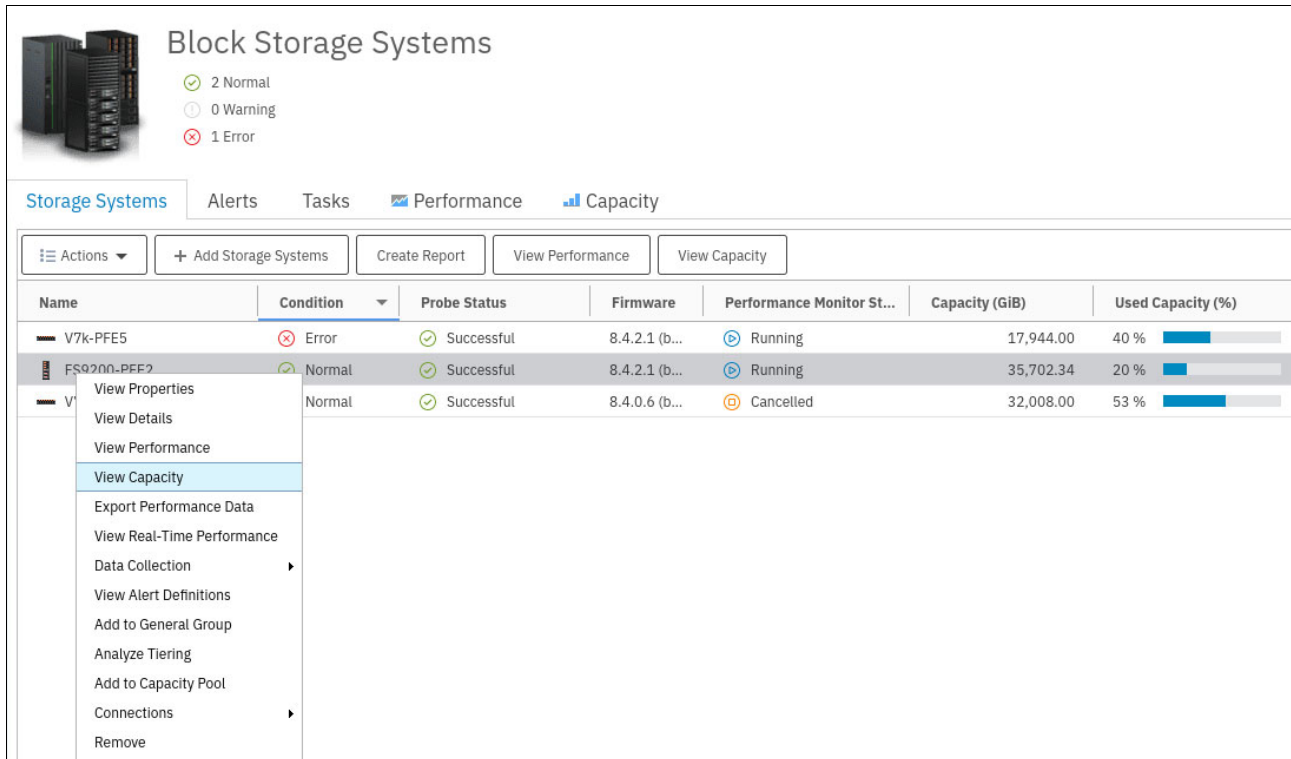
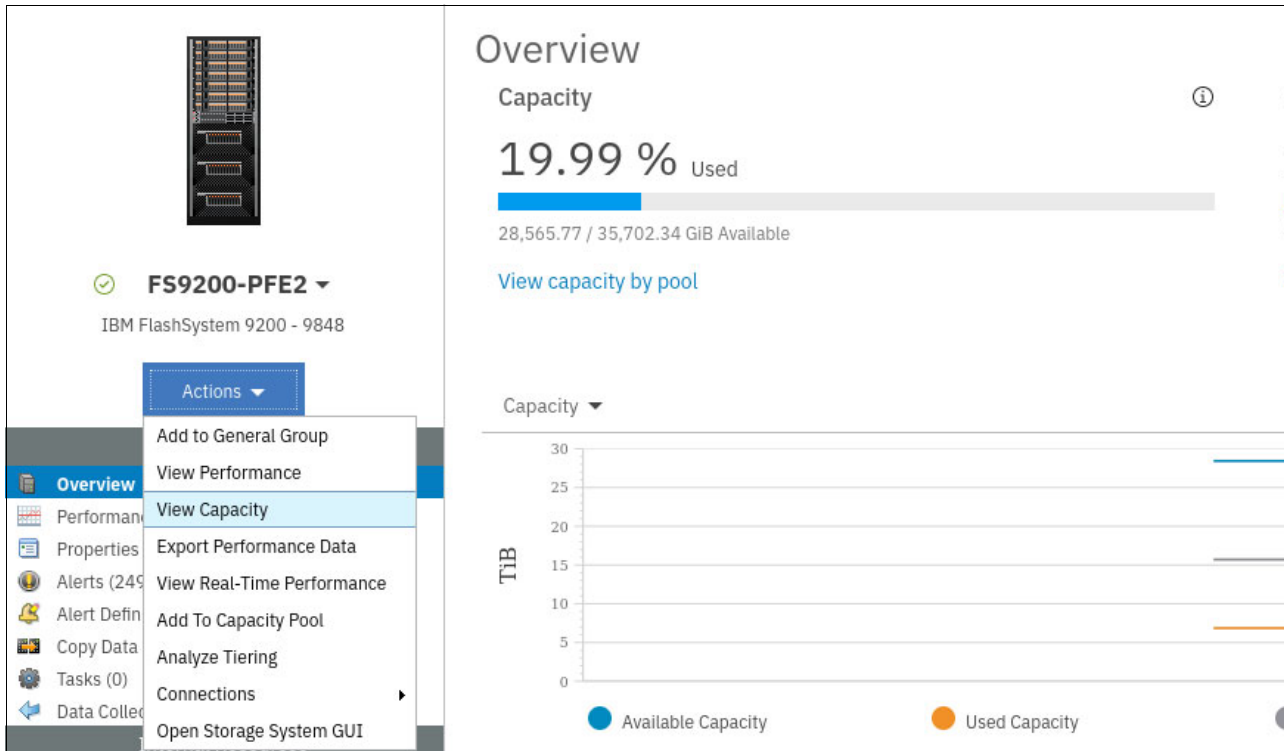

Figure 9-50 Block Storage Systems overview
Figure 9-51 Capacity overview of Storage System
1. To open the Capacity View in IBM Spectrum Control, click **Storage**, and then click **Block Storage Systems**. Right-click one or more storage systems and click **View Capacity** (see Figure 9-50).
2. You can also click **View Capacity** on the **Actions** menu (see Figure 9-51 on page 597) of each device.
- To open the Capacity view in IBM Storage Insights, use the **Resources** menu. The rest of the sequence is similar to IBM Spectrum Control with some minor cosmetic differences (see Figure 9-50 on page 596 and Figure 9-51).